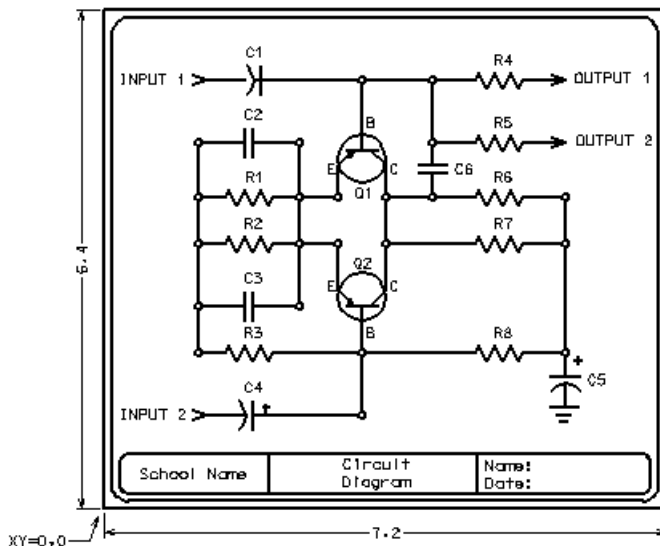

Figure P11-1 Completed Project design
This project exercise provides step-by-step instructions for creating the design shown in Figure P11-1. The intent is to guide you in creating and using cells.
STEP 6: Continue drawing lines and placing cells by referring to Figure P11-1.